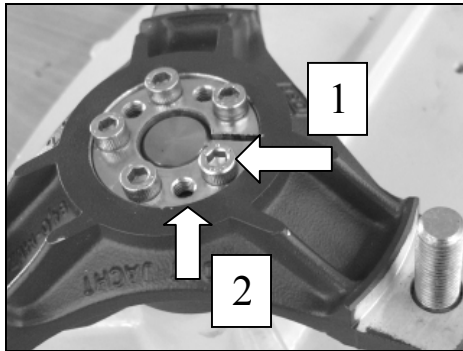

Fig. 100
- Remove the clamping sleeve (slacken the screws of the clamping sleeve 1 and screw them into the threads for slackening 2 – with even tightening remove the sleeve) (Fig. 100)